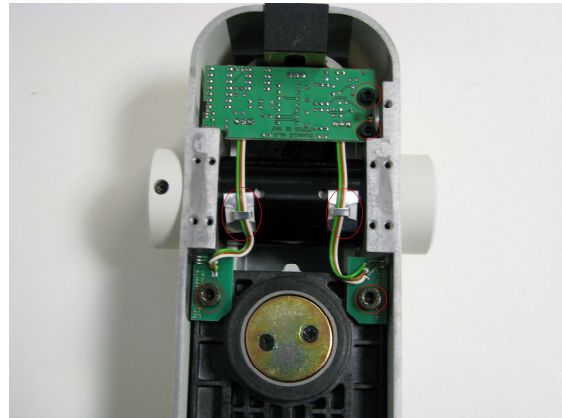

Figure 20, Right/left detection boards
5. Loosen the screws which are holding the boards. Please refer to **Figure 20**.